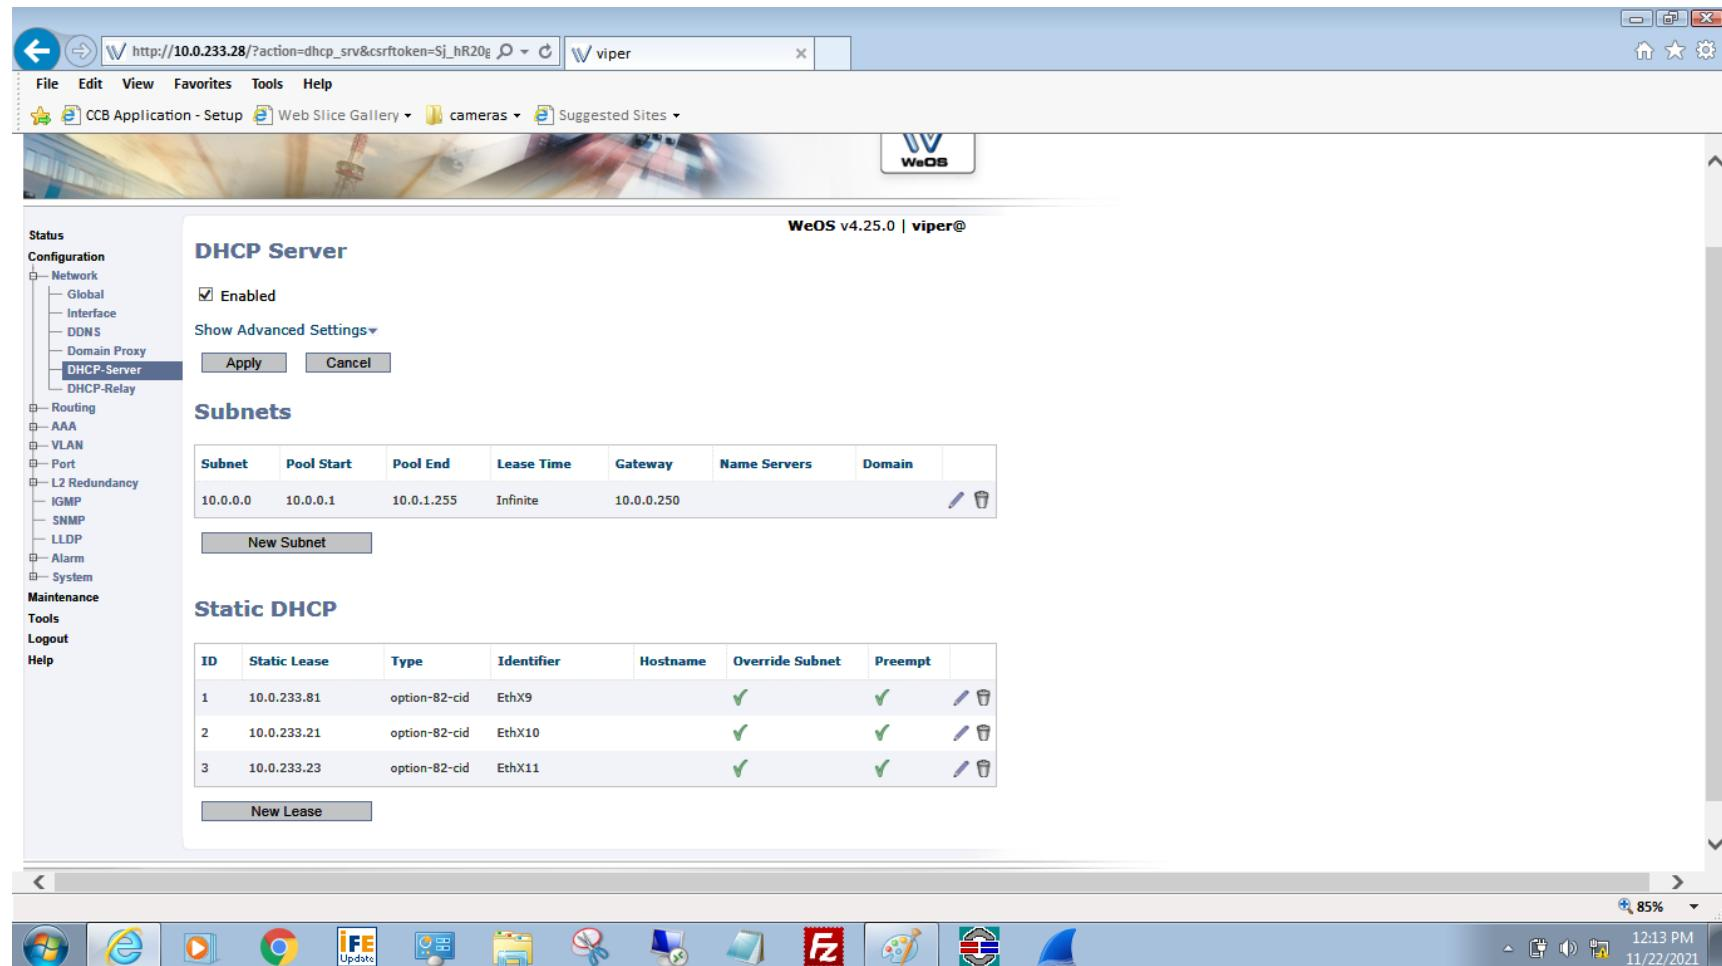
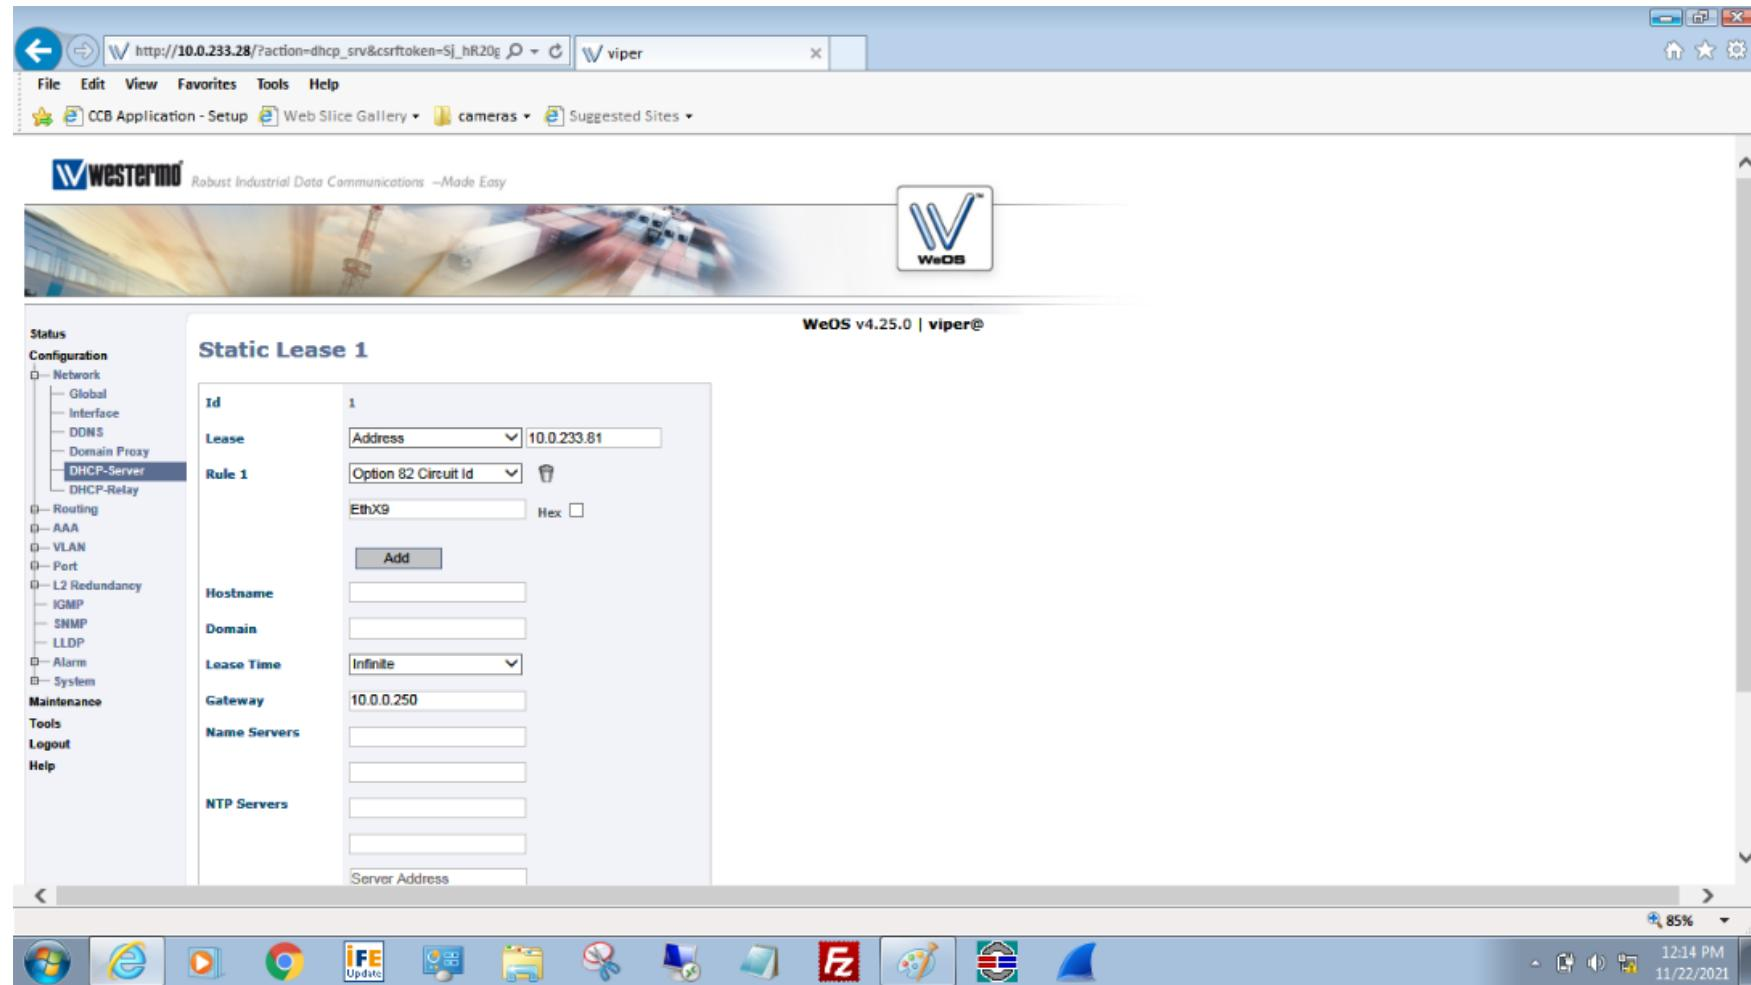
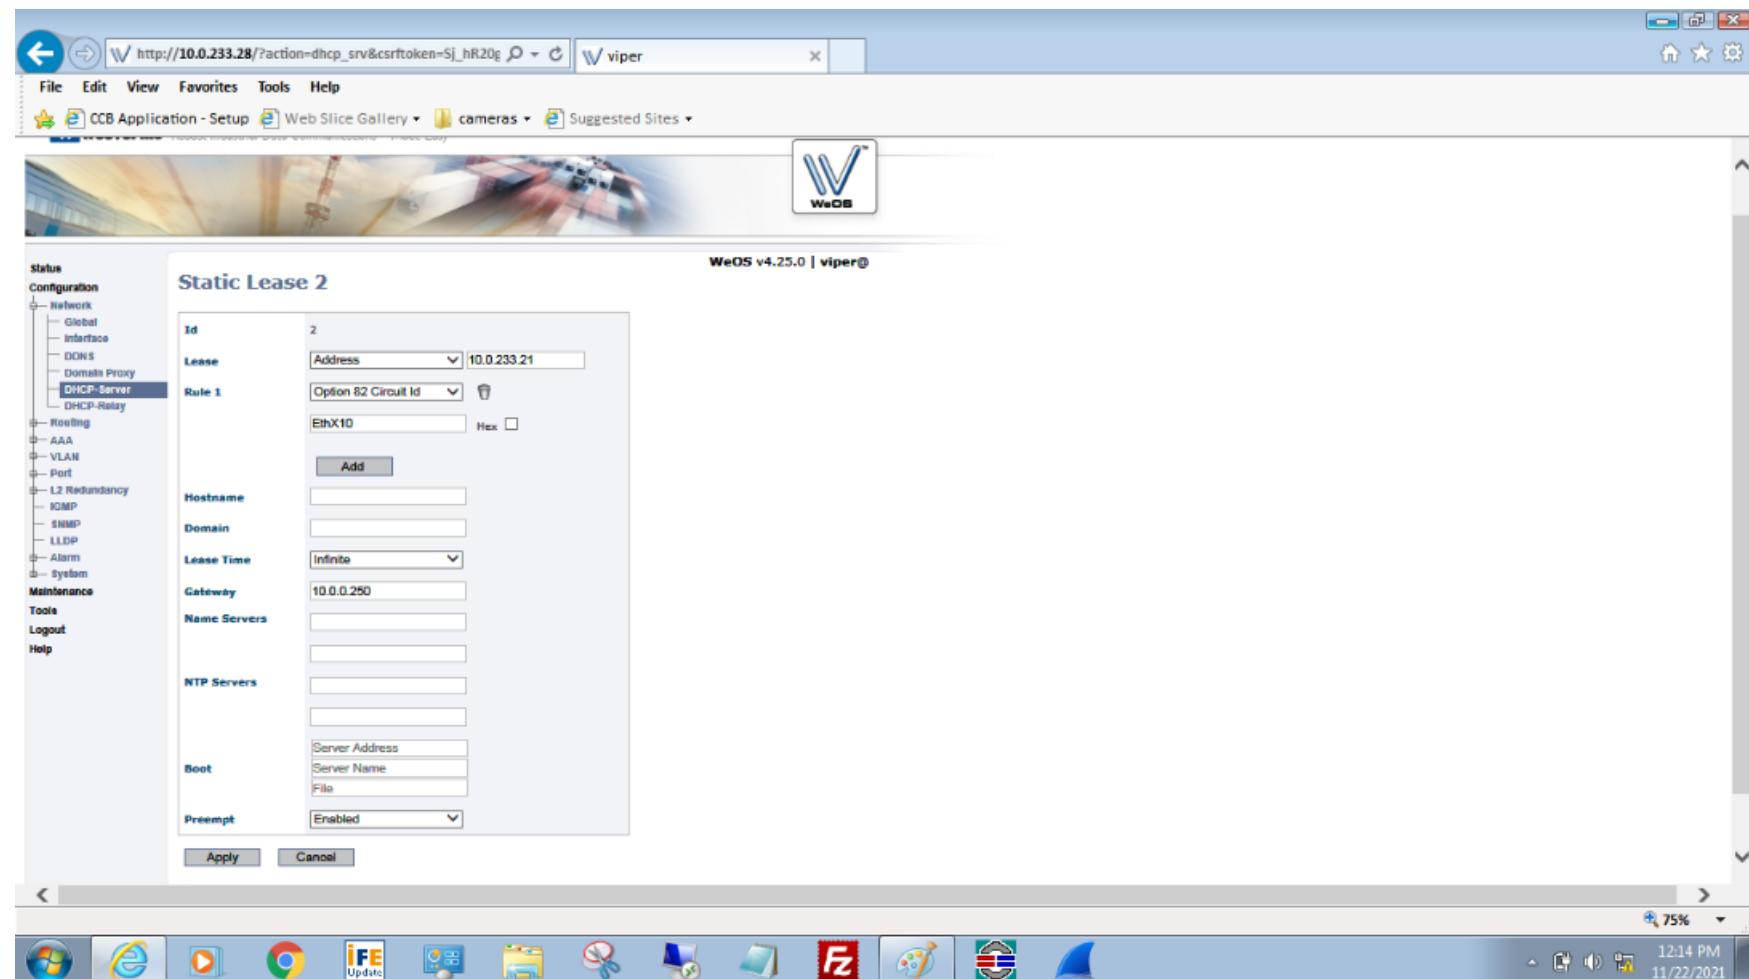
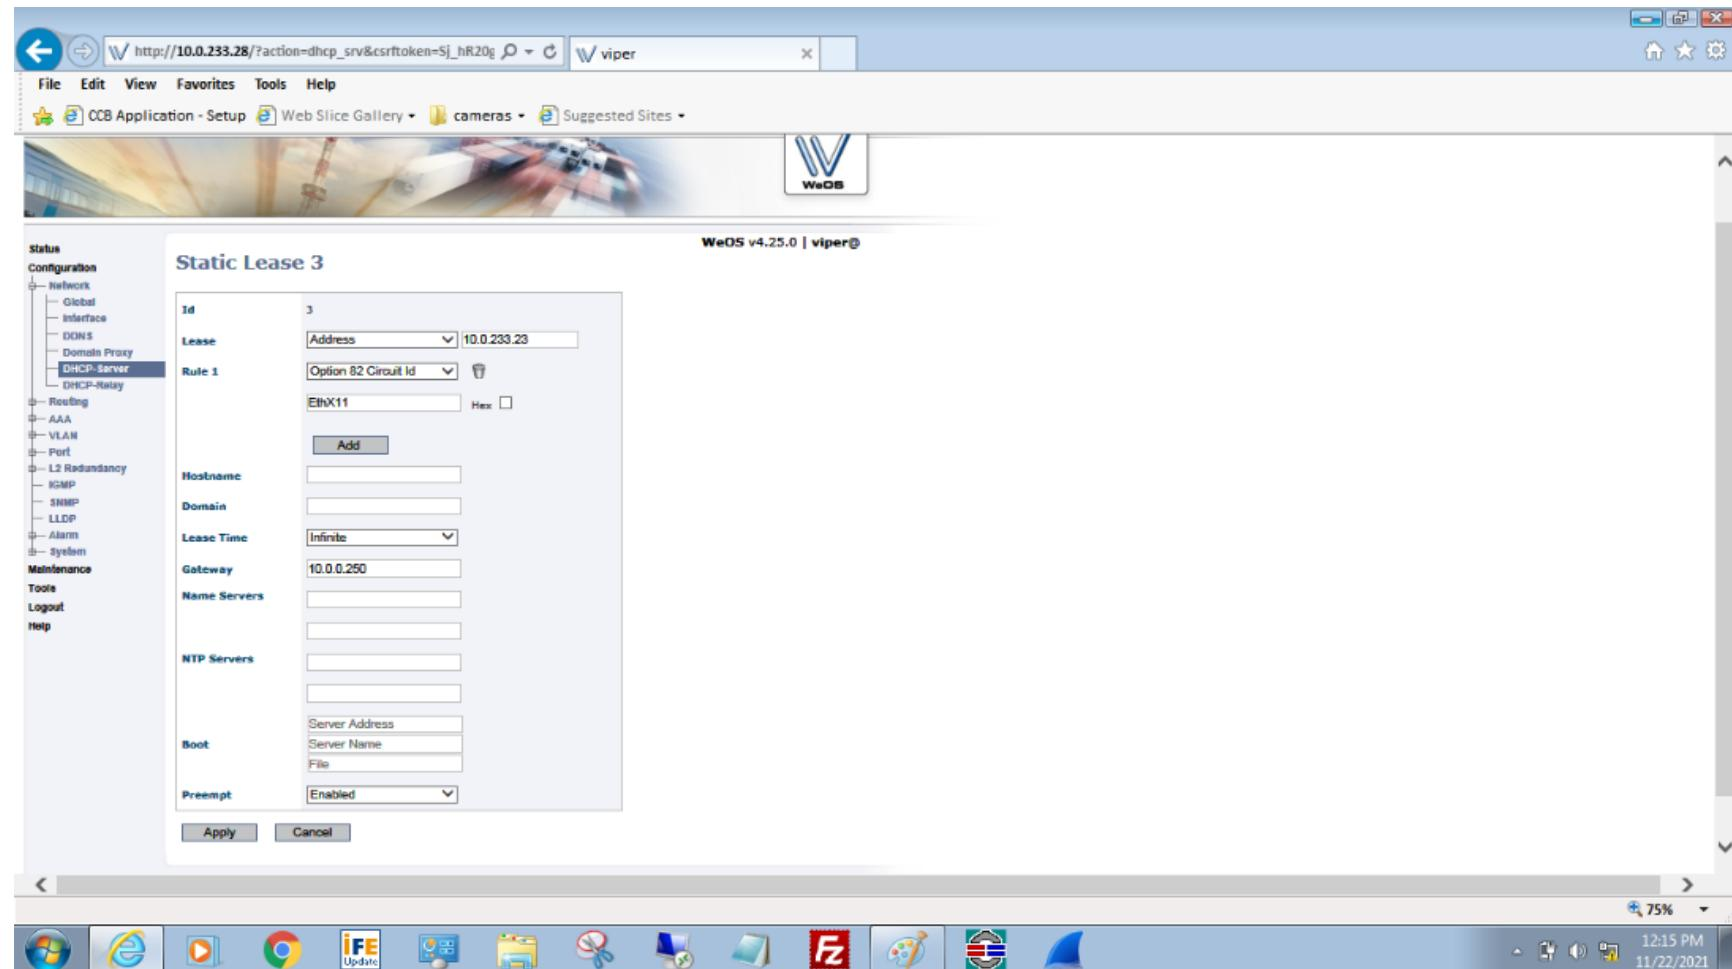

Figure 8-15: DHCP Server Screen
Figure 8-16: Static Lease 1 Screen for each Static ID
Figure 8-17: Static Lease 2 Screen for each Static ID
Figure 8-18: Static Lease 3 Screen for each Static ID
- Set the DHCP Server Setting as shown in Figure 8-15. Click each pencil icon, then the IP address for each port can be modified as shown in Figure 8-16, Figure 8-17 and Figure 8-18.
Host 1: Port X9 (FDS), IP Address 10.0.xxx.81 (See Static Lease 1 screen in Figure 8-16)
Host 2: Port X10 (SDS), IP Address 10.0.xxx.21 (See Static Lease 2 screen in Figure 8-17)
Host 3: Port X11 (PIDS), IP Address 10.0.xxx.23 (See Static Lease 3 screen in Figure 8-18)
- c. Set the DHCP Server Setting as shown in Figure 8-15. Click each pencil icon, then the IP address for each port can be modified as shown in Figure 8-18.
Host 1: Port X9 (FDS), IP Address 10.0.xxx.82 (See Static Lease 1 screen in Figure 8-18)
Host 2: Port X10 (SDS), IP Address 10.0.xxx.22 (See Static Lease 2 screen in Figure 8-18)
Host 3: Port X11 (PIDS), IP Address 10.0.xxx.24 (See Static Lease 3 screen in Figure 8-18)